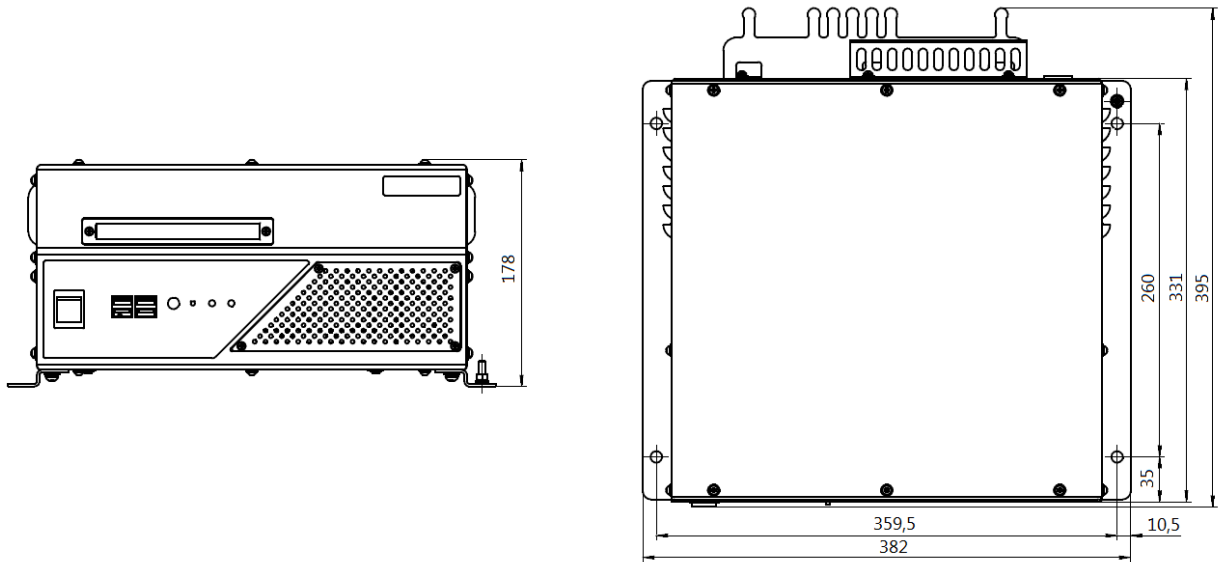

Figure 1 – Overall dimensions of the Product MPC-127
1.2.3 Products' overall dimensions depending on the diagonal are represented in Figures 1 and 2.
Note – Overall dimensions in Figures 1 and 2 are informative and may differ from particular Product design depending on the order. Inquire the manufacturer for overall dimensions of particular Product design.